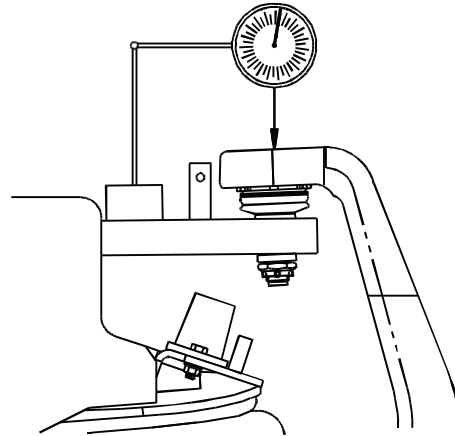

Figure 6 - Upper Ball Joint Dial Indicator Mounting
2. Install a dial indicator with a magnetic base so that the base is fixed to the upper control arm. Place the indicator tip on the bottom of the upper ball joint base. (See Figure 6).